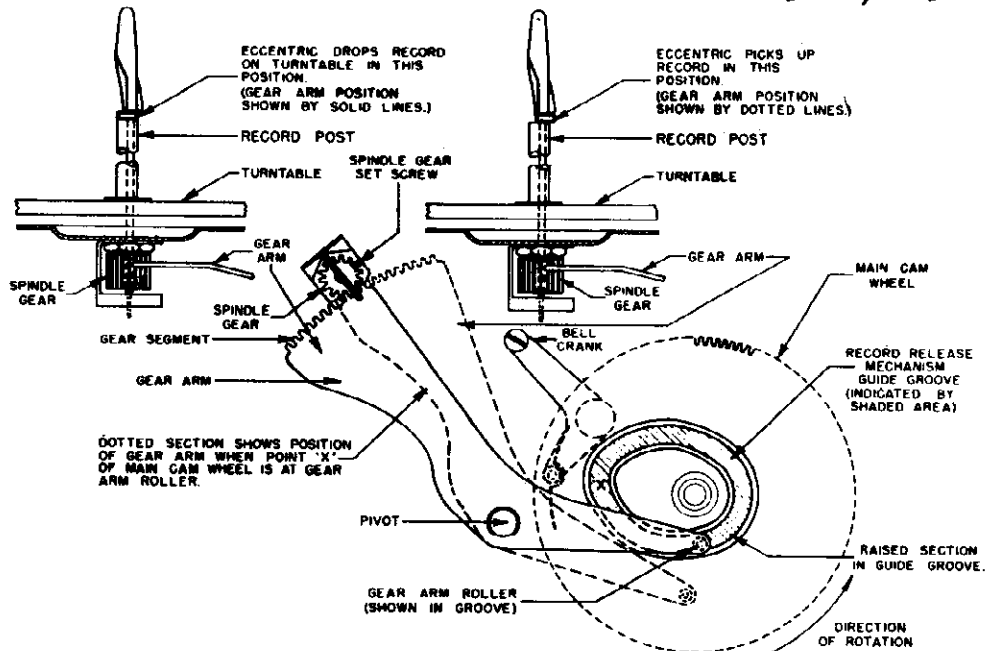

FIGURE 7. RECORD DROP MECHANISM (BOTTOM VIEW)
At the same time the pick-up arm was being lifted and swung clear, the record release cam was rotated through 180° by the gear segment arm to pick up a record and then back to its normal position in line with the record on the turntable. The movement of the segment gear is controlled by the specially shaped groove on the bottom of the main cam wheel. See Figure 7.
Figure 7 for its location. The raised section of the groove is very small and resembles what is often taken for flash on castings. It serves to narrow down the guide groove at this point and in this manner insures closer alignment of eccentric and record post.
2. Loosen the slab head set screw in the spindle gear. The eccentric will now turn freely. See Figure 7.